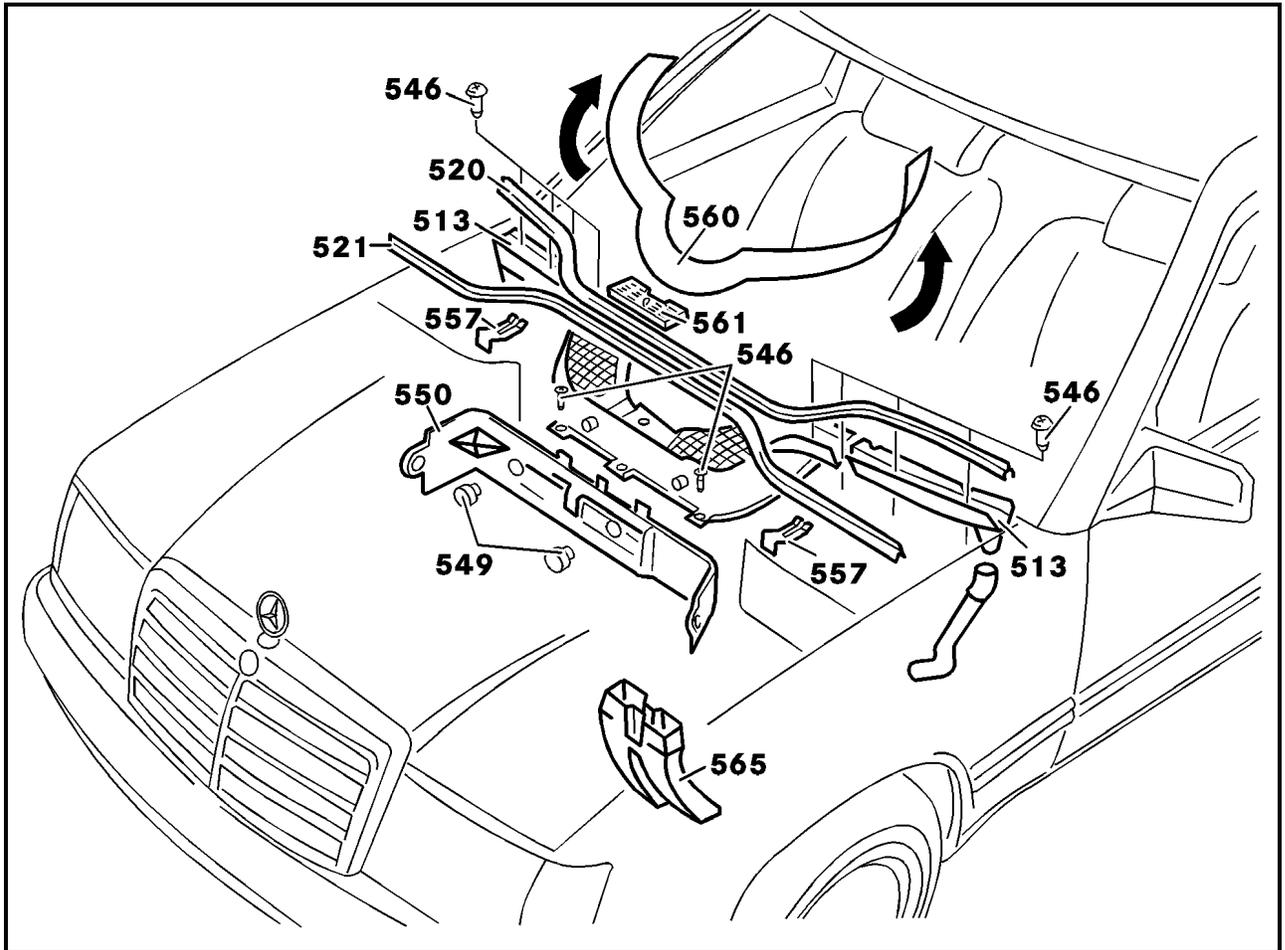

Figure 1
sealing (560)draw-off, attach (figure 1).